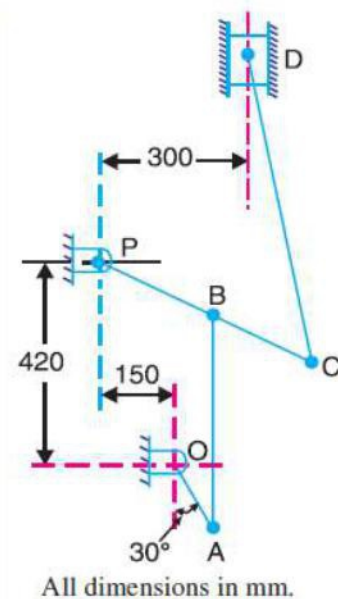

Fig. 8.14
**Example 8.7.** Find out the acceleration of the slider  $D$  and the angular acceleration of link  $CD$  for the engine mechanism shown in Fig. 8.14.